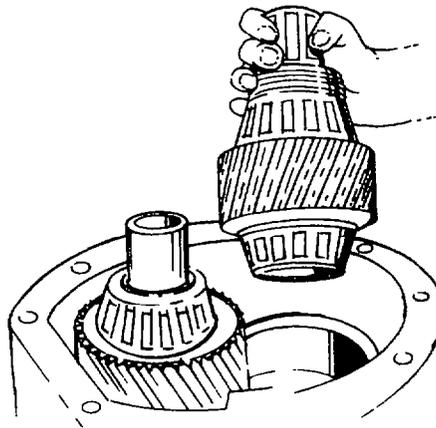

Fig. 220 — Removing Front Output Shaft Assembly
- g. Remove the front output shaft assembly (see fig. 220).